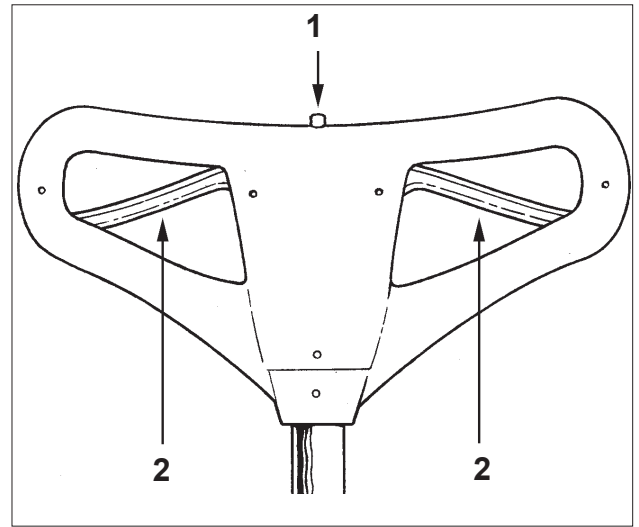

Figure 3
2. With the handle in operating position and the power cable plugged into the proper outlet, depress the interlock button (1) and squeeze the levers beneath the handle grips (2). (See figure 3).